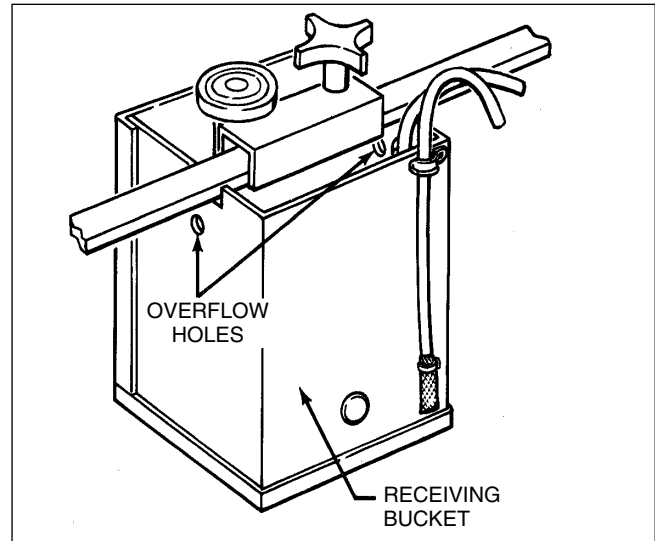

FIGURE 1-26, Bucket
- Filtered coolant will be flowing into Receiving Bucket (*see Figure 1-26*). To get coolant to work-piece, start honing machine motor and adjust flow control valves on flow control manifold in usual manner.